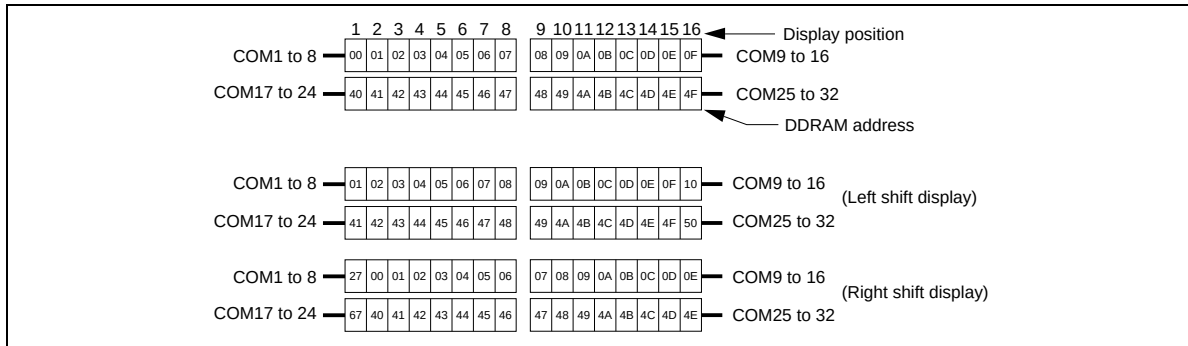
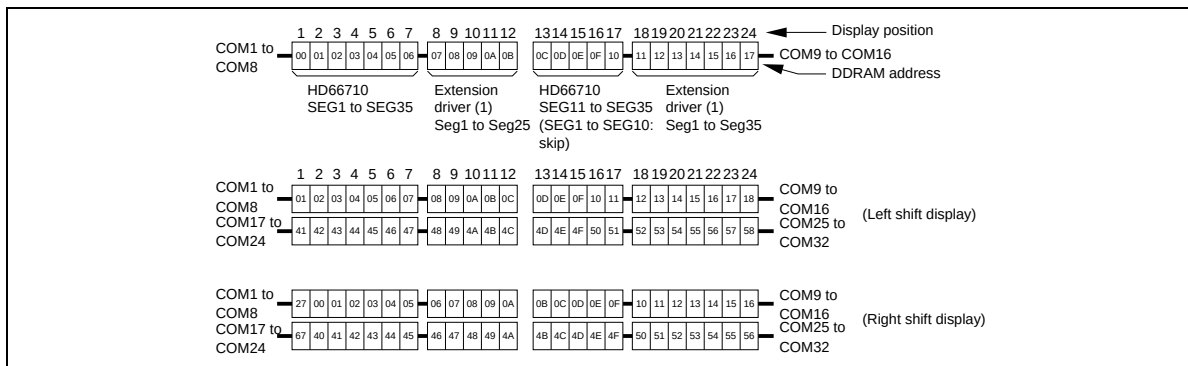

Figure 4 2-line by 16-Character Display Example
Figure 5 2-Line by 24 Character Display Example
- Case 1: The first line is displayed from COM1 to COM16, and the second line is displayed from COM17 to COM32. Care is required because the end address of the first line and the start address of the second line are not consecutive. For example, the case is shown in Figure 5 where 16×2 -line display is performed using the HD66710. When a display shift operation is performed, the DDRAM address shifts. See Figure 4.
- Case 2: Figure 5 shows the case where the EXT pin is fixed to high, the HD66710 and the 40-output extension driver are used to extend the number of display characters. In this case, the start address from COM9 to COM16 of the HD66710 is 0AH, and that from COM25 to COM32 of the HD66710 is 4AH. To display 24 characters, the addresses starting at SEG11 should be used.
When a display shift operation is performed, the DDRAM address shifts. See Figure 5.